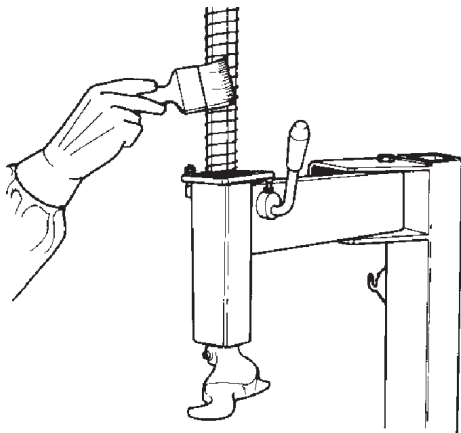

Fig.7.0-1
**A.** Periodically clean the vertical hexagonal rod with nonflammable liquid detergent. After this immediately lubricate with a light lubricating oil (Fig.7.0-1).